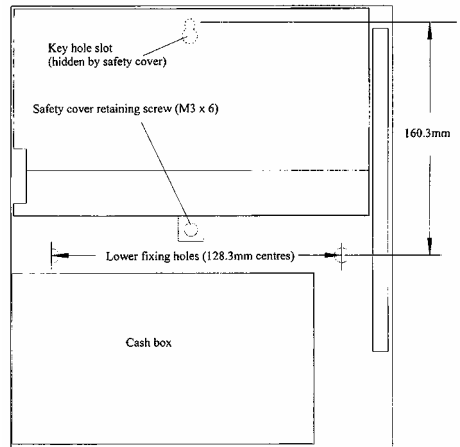

Figure 1 – Removing Circuit Board Cover
1. Lay the timer on its back and open the case using the key supplied. Remove the cash box and using a small flat bladed screwdriver remove the 3mm screw (M3 x 6) holding the safety cover in place, as shown in Figure 1. Once the screw has been removed the cover may be lifted and unhooked from the main case to fully expose the back of the case and the main circuit board.